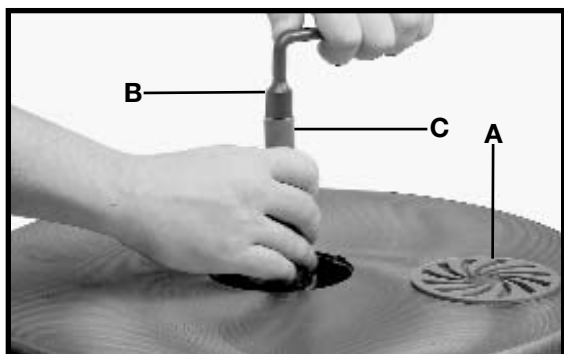

Fig. 20
2. Remove table insert (A) Fig. 20.
3. Use the supplied socket wrench (B) Fig. 20, to remove the arbor screw counter-clockwise. Remove the abrasive sleeve (C) with the sanding drum from the spindle assembly.
5. Attach the abrasive sleeve and sanding drum combination (C) Fig. 20, firmly on the spindle adapter. Fasten with the arbor screw (removed in **STEP 2**). Replace the table insert with the arrows up.